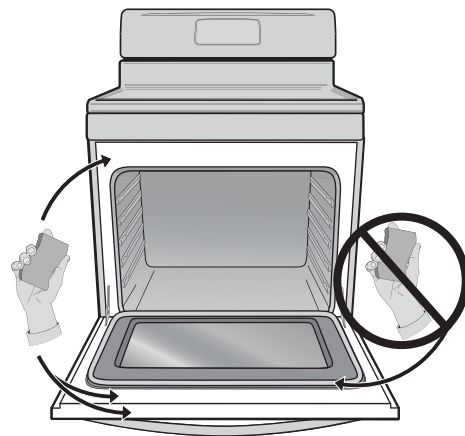

Figure 50: Areas to clean and to avoid
- Clean any soil from the oven frame, the door liner outside the oven door gasket and the small area at the front center of the oven bottom (Figure 50). These areas heat sufficiently to burn soil on. Clean using soap and water prior to starting Self Clean.
- DO NOT** clean the oven door gasket (Figure 50). The woven material of the oven door gasket is essential for a good seal. Care should be taken not to rub, damage or remove the gasket. **DO NOT** use any cleaning materials on the oven door gasket. Doing so could cause damage to the door gasket.